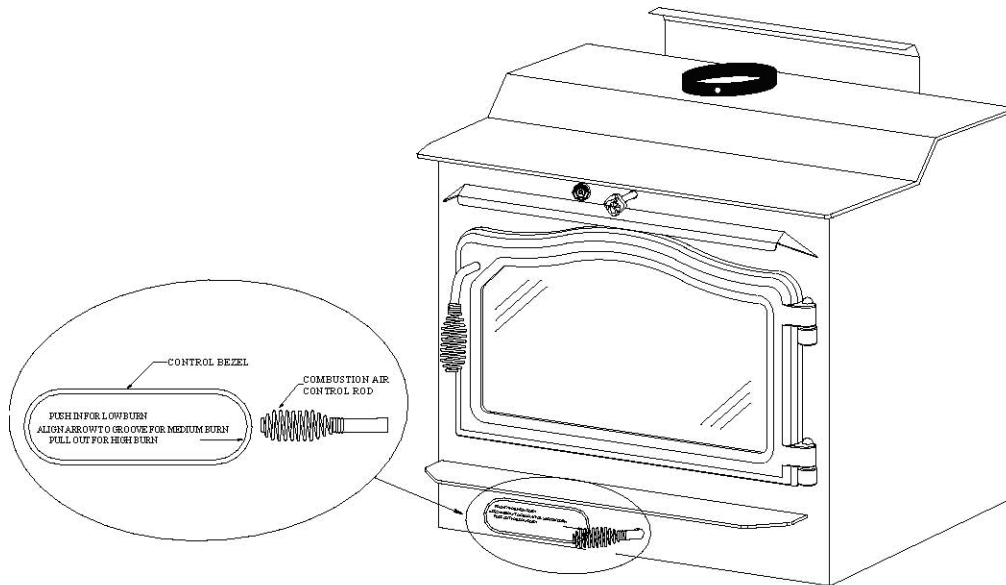

FIGURE 14: MODEL R MANUAL DRAFT CONTROL
- b. **Model R Manual Draft Control:** Refer to FIGURE 14 for the Model R manual draft control location.